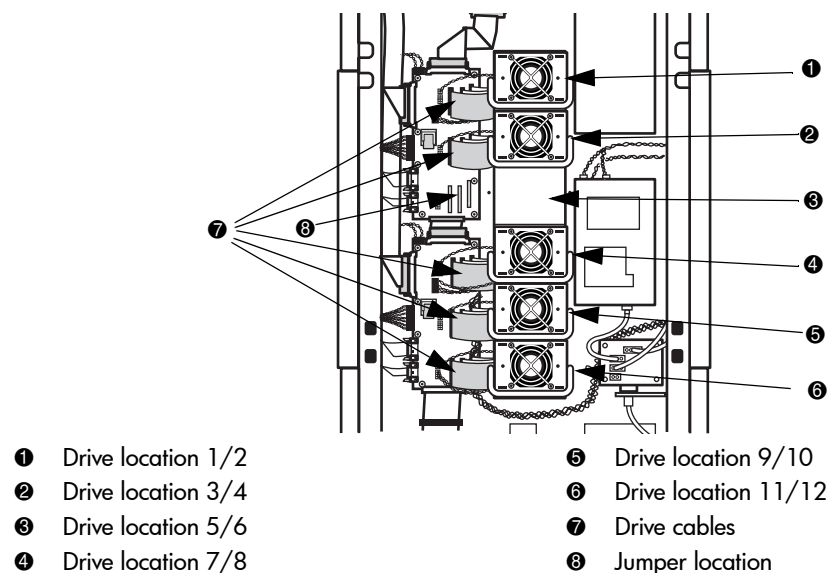

Figure 11: Connection of drive cables and jumpers to the interposer board(s)
3. For a 4-drive jukebox, insert the two UDO drive modules into place at drive locations 1/2 and 3/4 (see Figure 11).